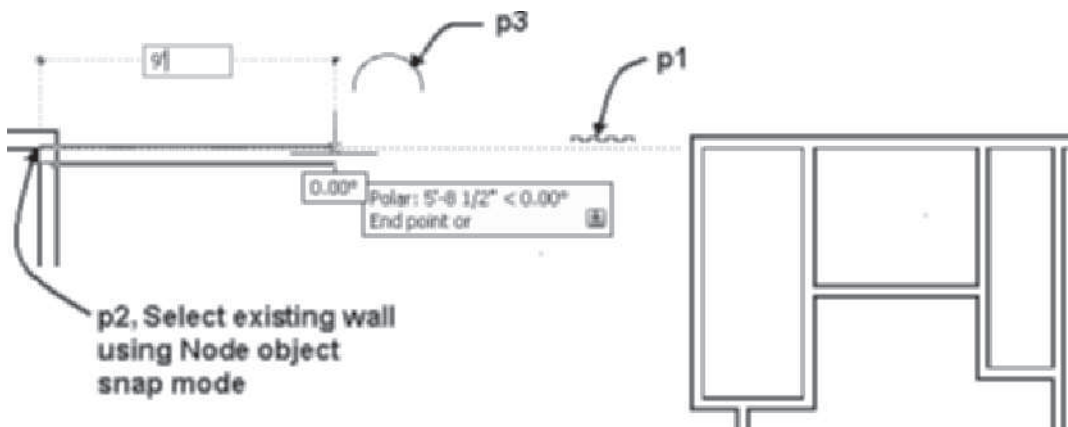

FIGURE 3.84 Selection of polyline and wall start point
3. Select the View tab. Select the entities at p1, p3, and the vertical wall at p2 as shown in Figure 3.84. Select **Zoom Object** from the Zoom flyout menu of the **Navigation bar**.
5. To create a wall modifier style, select the vertical wall at p2 as shown in Figure 3.84 to display the Wall tab. Choose the Edit Wall Modifier Style from the Plan Modifier flyout to open the Style Manager.
8. Select **Bar_pilaster** in the left pane, right-click, and select **Set From** from the shortcut menu. Select the polyline at p1 as shown in Figure 3.84. Click **OK** to close the Style Manager.
9. Select an interior wall and choose **Add Selected** from the General panel of the Wall tab. Edit the Properties palette **Base Height** = 42" [1060]. Respond to the following workspace prompts to add the wall shown in Figure 3.84.
Start point or: (Select the **Node** point of the existing wall at p2 shown in Figure 3.84.) (Move the cursor to the right with a polar angle of 0°.)
19. Select the polyline shown at p1 in Figure 3.84, right-click, and choose Basic Modify Tools > Delete.